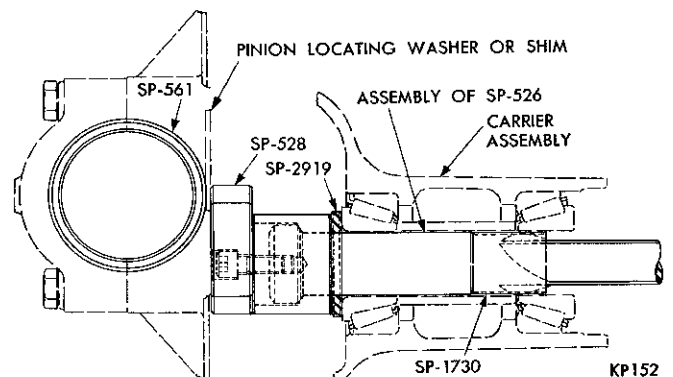

Fig. 26—Pinion Preload with Spacer (8 3/4" Ring Gear)
(1) With the tool installed in the carrier, remove the main screw nut, centralizing washer, compression sleeve and the front pinion bearing.
(2) Install the pinion bearing spacer, the larger bore of spacer next to the rear bearing.
(3) Position the sleeve (SP-1730) in the front bearing, making sure the sleeve is flush with the rear of the bearing.
(4) Position the original shims, previously removed from the drive pinion shaft, over the sleeve and slide the sleeve, bearing and shims over the tool main screw until the shims rest against the spacer (Fig. 26).
(5) Install the tool compression sleeve (SP-535) (square end out), centralizing washer (SP-534) and main screw nut (SP-533). Turn the carrier in the stand to bring the nut on top.
(6) Tighten the tool nut to 240 foot-pounds torque, using holding Tool C-3281 on the compression sleeve to hold the assembly in several positions to make a complete revolution while tightening. Remove the holding tool and rotate the assembly several turns in both directions to align the bearing rollers. Retest the torque to 240 foot-pounds (torque may have dimin-